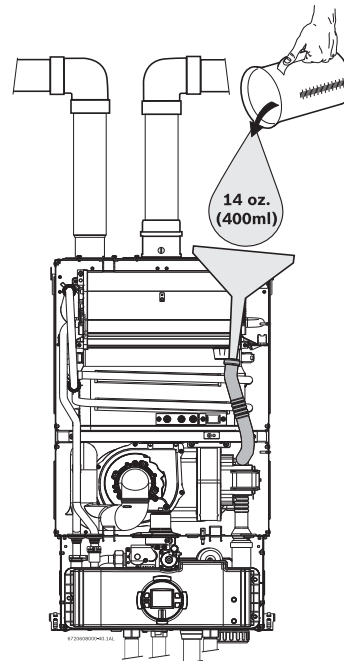

Fig. 32 Filling the condensate trap after installation
- Fill the condensate trap by pouring approximately 14 oz. (400ml) of water into the top of the drain tube. To avoid damage to the appliance use a funnel in this operation, see Fig. 32, page 28.